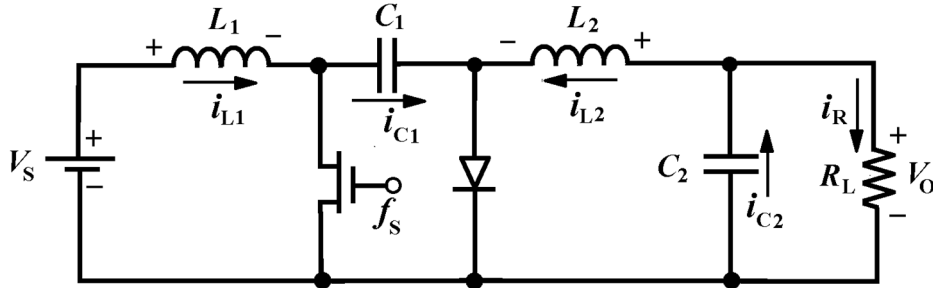

Figure 1
- Design a DC-DC Cuk Converter as shown in Fig. 1 with specifications: input = 10 V, load resistance = 10  $\Omega$  and load power = 20 W. The switching frequency  $f_s = 60$  kHz. Specify the values of inductors and capacitors. The change in current for both inductors is kept at 15% of their average values. The output ripple voltage must be < 1% and the voltage ripple across  $C_1$  must be < 5%. Assuming that all the components are ideal.